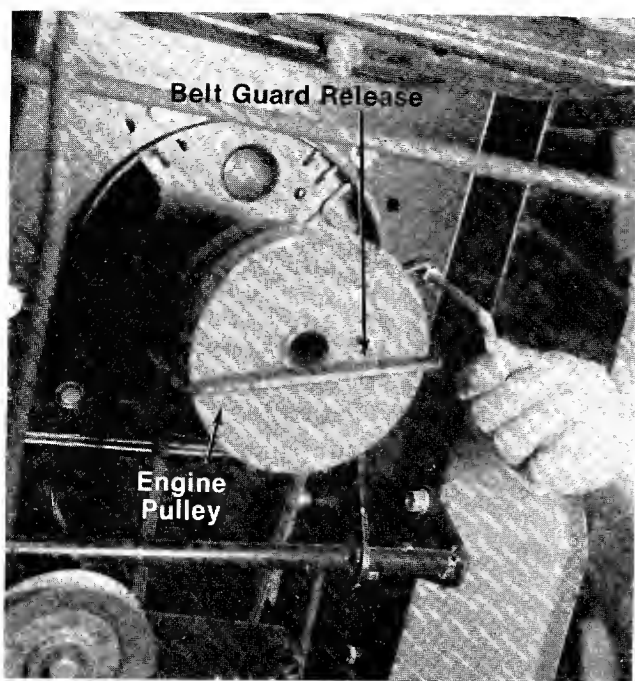

FIGURE 17.
3. Unscrew the belt guard release next to the engine pulley. See figure 17.